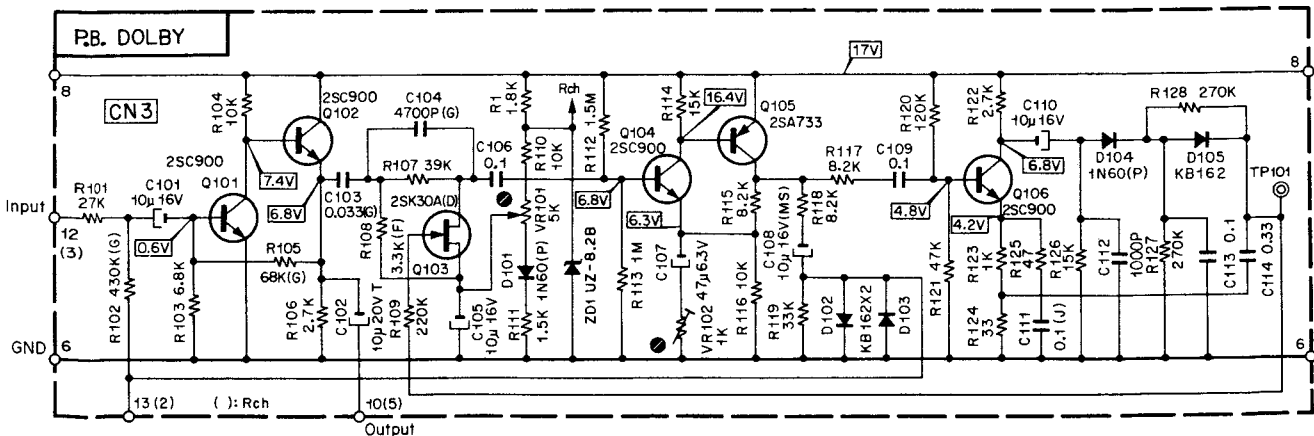

Fig. 2.2.4 Playback Dolby NR Processor Circuit Diagram
Fig. 2.2.4 shows a circuit diagram for a playback mode Dolby NR processor. The input for this circuit is applied through terminal 12 (3) where the output of the playback head amplifier is connected. Terminal 10 (5) is the output of the playback mode Dolby NR processor which becomes the input of the Buffer Amp. via the MONITOR switch. An input signal through terminal 13 (2) is applied to the DOLBY NR switch. For DOLBY NR IN, this line is open and the signal is fed back to the base of Q101. For DOLBY NR OUT, this line is grounded and no signal is fed back.